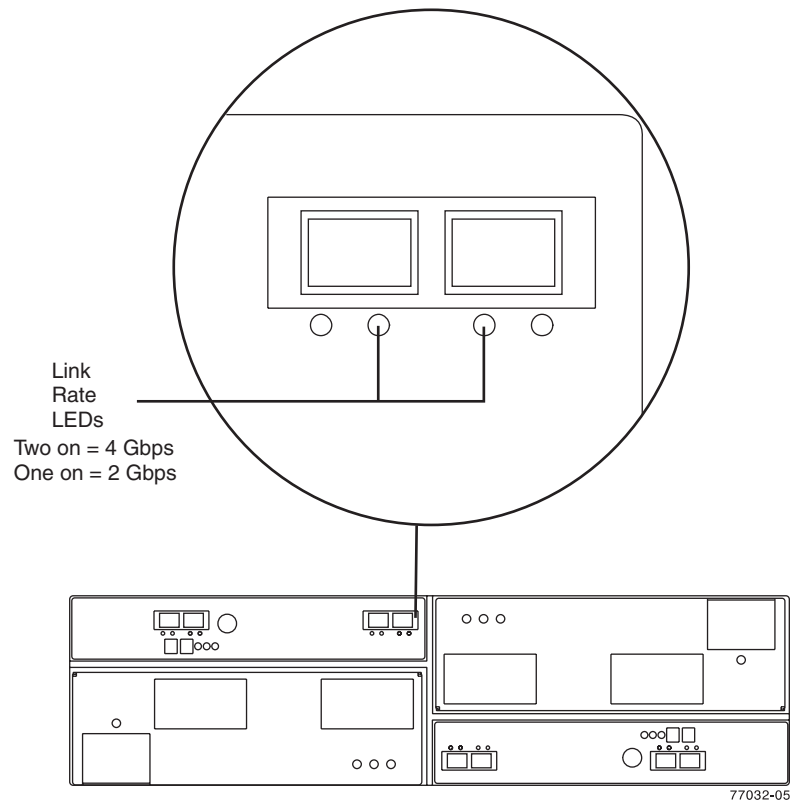

Figure 46. Link rate LEDs
2. Locate the Link Rate indicator LEDs. Figure 46 shows the location of the Link Rate indicator lights on the back of the storage expansion enclosure.
4. Locate the Link Rate switch. Figure 46 shows the location of the Link Rate indicator light on the front of the command module.